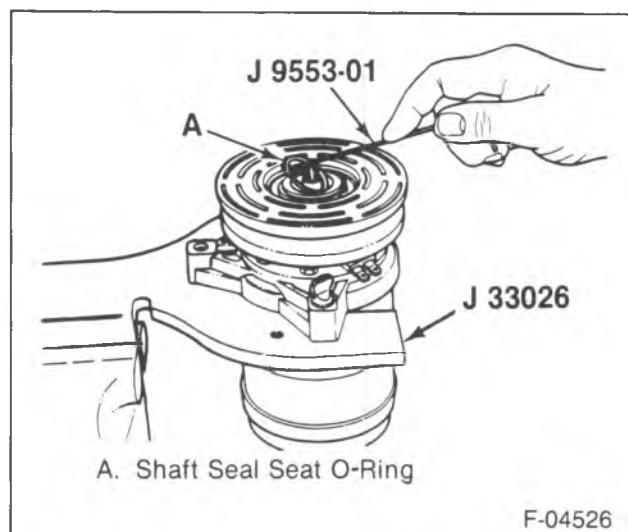

Figure 24—Removing the Shaft Seal Seat O-Ring
- 4. O-Ring seal using J 9553-01 (figure 24).